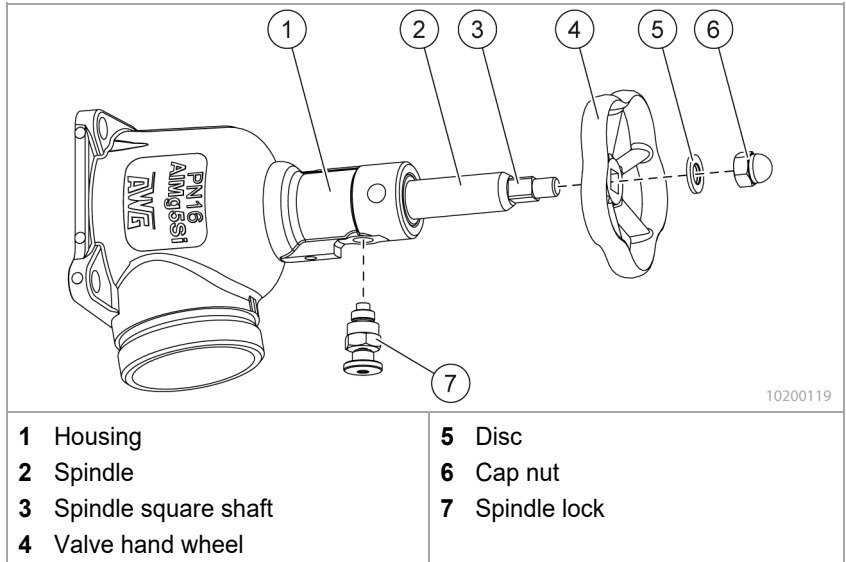

Fig. 3 Dismantling the spindle
2. Unscrew the cap nut (Fig. 3/6), remove the washer (Fig. 3/5) and the hand wheel (Fig. 3/4).
3. Unscrew the spindle lock assembly (Fig. 3/7) completely from the housing (Fig. 3/1).
4. Unscrew the spindle completely downwards out of the housing using a suitable spanner on the square (Fig. 3/3).